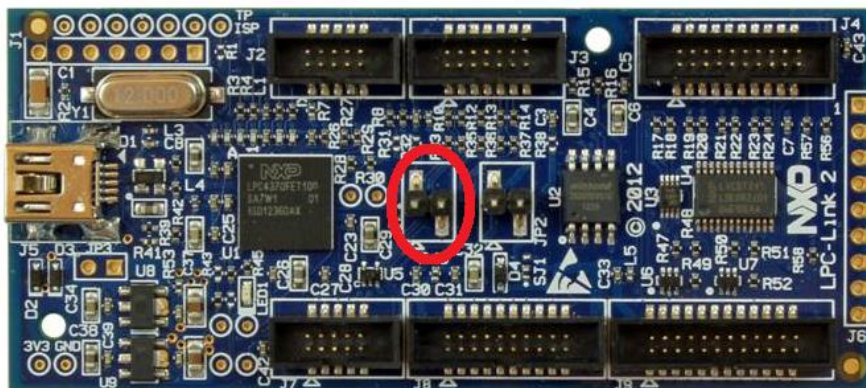

Figure 5: Highlighting the position of JP1
1. First remove JP1 from the LPC-Link2 board – see Figure 5